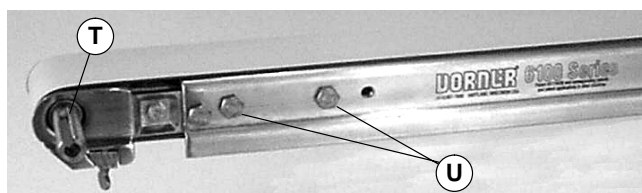

Figure 3
2. Locate drive output shaft (T of Figure 3) and remove two (2) screws (U).